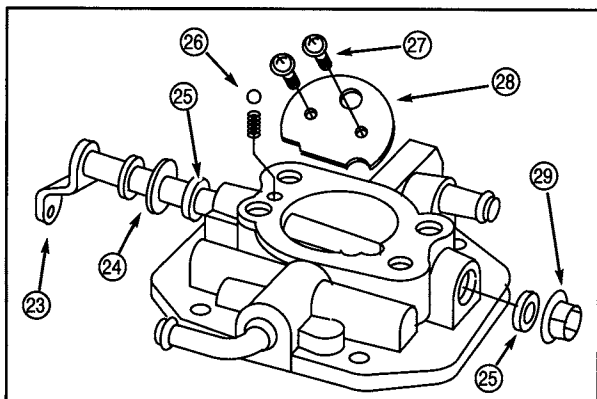

Fig. 103
14. Mark choke plate before removal to ensure re-installation in the original position. Top and bottom edges are beveled. Remove screws (27) and choke plate (28), **Fig. 103.**
15. Remove retainer (29).
16. Remove choke shaft (23) and spacer (24).
17. Remove seals (25).
**NOTE:** Carburetor body has a ball and spring (26) that keeps tension on choke shaft. Use care when removing choke shaft.